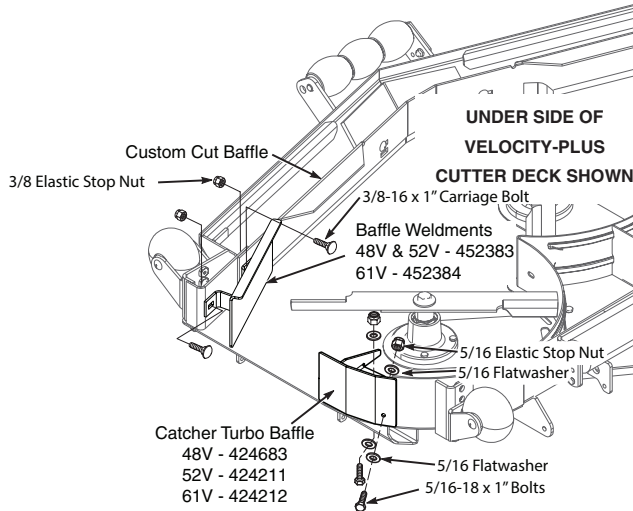

Figure 2-3. Grass Catcher Baffles
5. Remove the turbo baffle from the cutter deck. Using 5/16-18 x 1" bolts (p/n 04001-09), 5/16 flatwasher (p/n 04040-15), and 5/16 elastic stop nuts (p/n 04021-10) install the catcher turbo baffle. See Figure 2-3. (baffles have p/n's on them)
7. Install the grass catcher baffle weldment and secure using 3/8-16 x 1" carriage bolts (p/n 04003-23) and 3/8-16 elastic stop nuts (p/n 04021-09). See Figure 2-3.